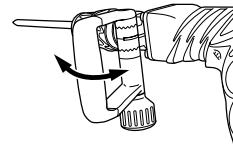
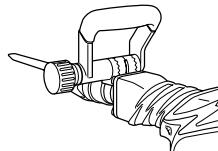
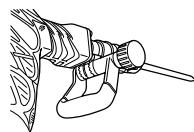

Fig. 6
Fig. 7
Fig. 8
- (2) Adjust it to a position where vertical (up-and-down) operation can be facilitated as illustrated in Fig. 6, Fig. 7, and Fig. 8.
- (3) Turn the grip in the direction of Ⓑ and fix the handle.